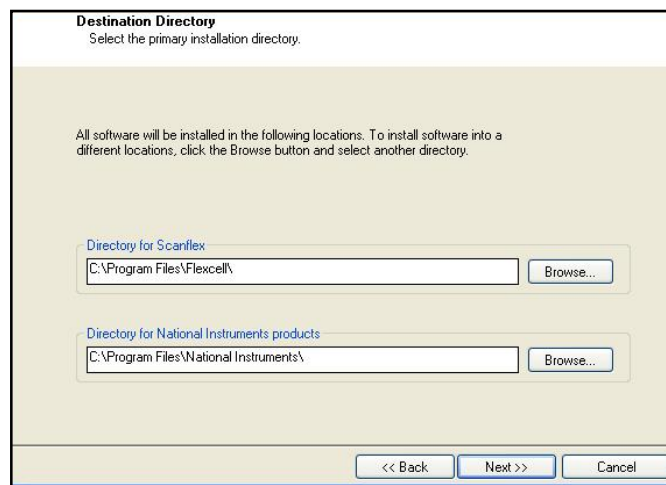

Figure 5. Selecting destination directory.
3. Select the destination directory to save all program files (Fig. 5) and click NEXT to continue.